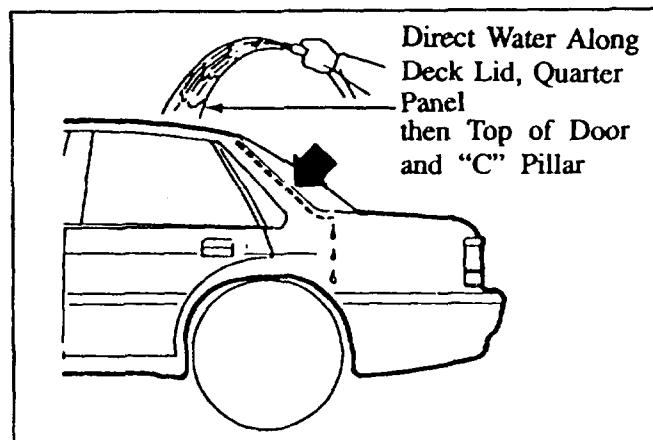

Figure 17: Locating Source of Rear Water Leak
5. Have an assistant direct the water stream over the entire rear of the vehicle, concentrating on the following areas: **Figure 17.**
**Note:** Direct a heavy stream of water where the rocker panel meets the inner wheel well (to check for leakage into the rocker panel). **Figure 17.**